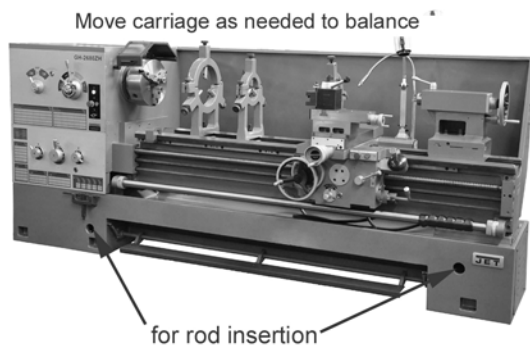

Figure 4 – Lifting preparation
7. Sling the lathe using steel rods or pipes of sufficient strength inserted through the holes in the stand (see Figure 4). **Do not lift lathe by the spindle.** With properly rated lifting equipment, slowly raise the lathe off the shipping pallet.